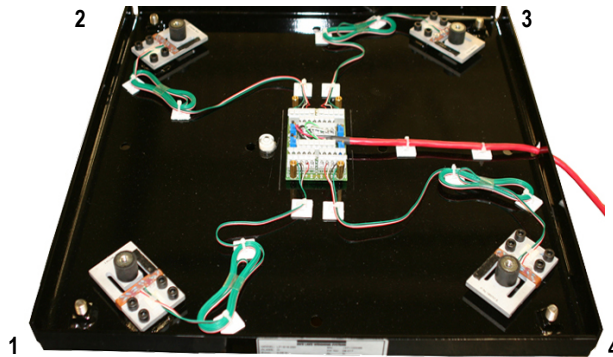

Figure 4-1. Load Cell Arrangement
5. Attach the cable from each load cell along the frame and into the summing board as shown in Figure 4-1.
NOTE: In Figure 4-1, both the scale and the summing board are viewed from the top. To verify correct load cell/summing board terminal matching, see the numbers on the terminals inside the summing board.